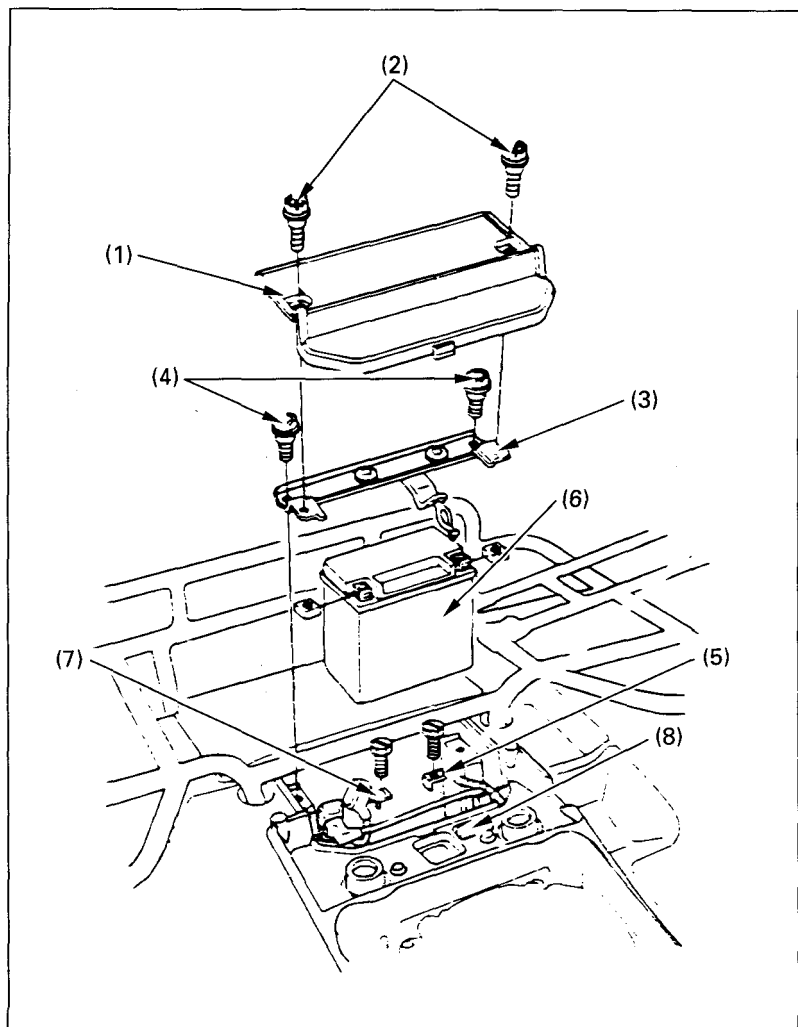

Fig. 4-19 (1) Battery box cover
3. Remove the battery box cover (1) by removing the mount bolts (2).
4. Remove the battery holder (3), (Fig. 4-19) by removing the mount bolts (4).
5. Disconnect the negative (—) terminal lead (5) from the battery (6) first, then disconnect the positive (+) terminal lead (7).
- * After installing the battery, check to see if the battery cables are routed correctly as shown on the label (8).